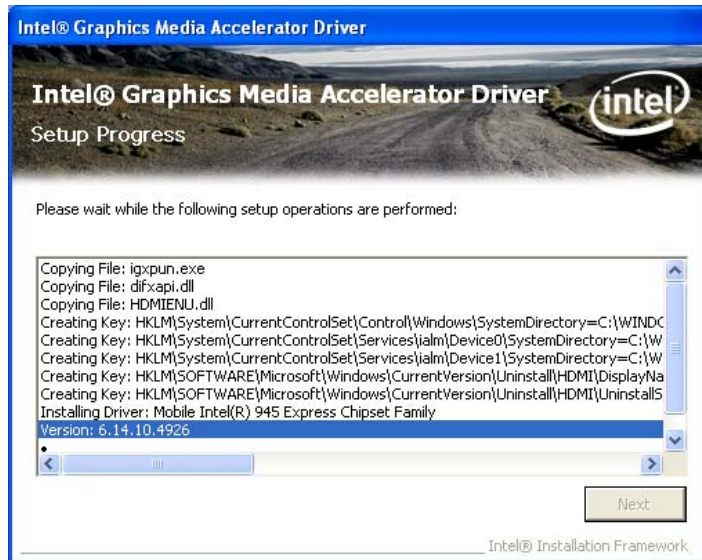

Figure 6-12: VGA Driver Setup Operations
Step 13: Setup Operations are performed as shown in **Figure 6-12**.